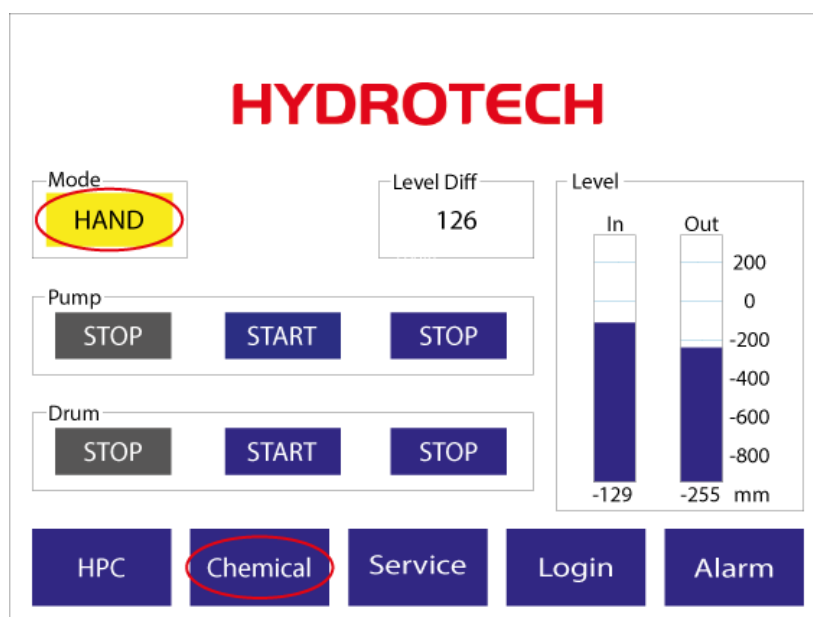

Figure 7.22 Main menu on electrical cabinet operator panel.
3. Select “Chemical” on the operator panel, see Figure 7.22.